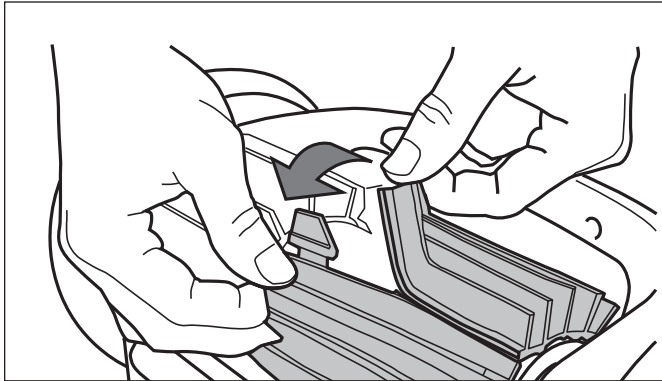

Figure 17. Undo the Tabs of the Brush
2. Separate the edges of the brush and undo the tabs. Remove the worn brush (see Figure 17).